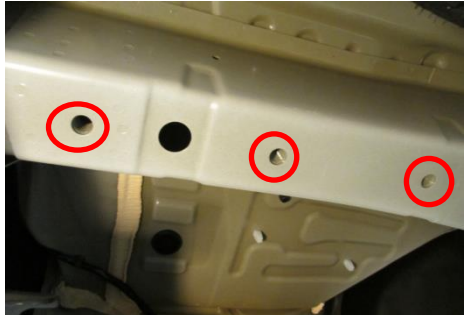

Figure 3
2. Hitch installation – raise the hitch into position and loosely install M14 bolt ① and conical washer ② into weldnut, see Figure 3.